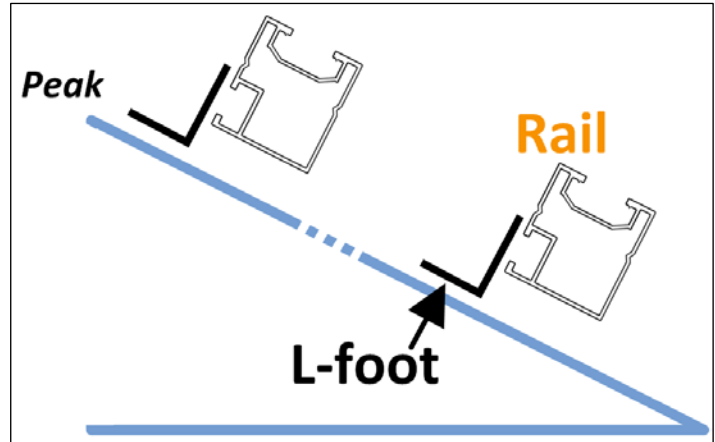
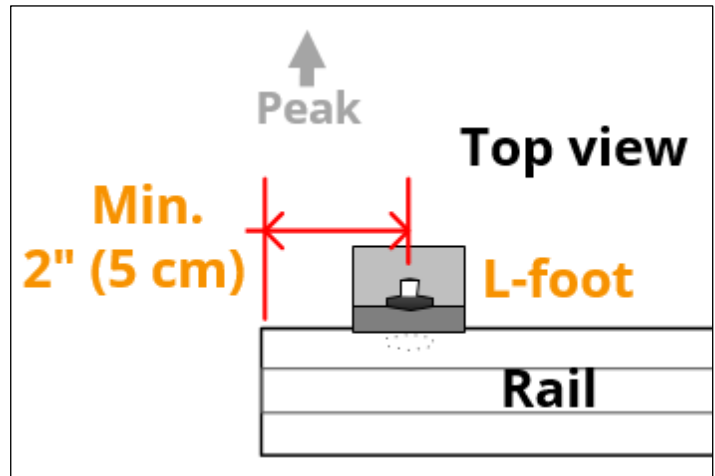
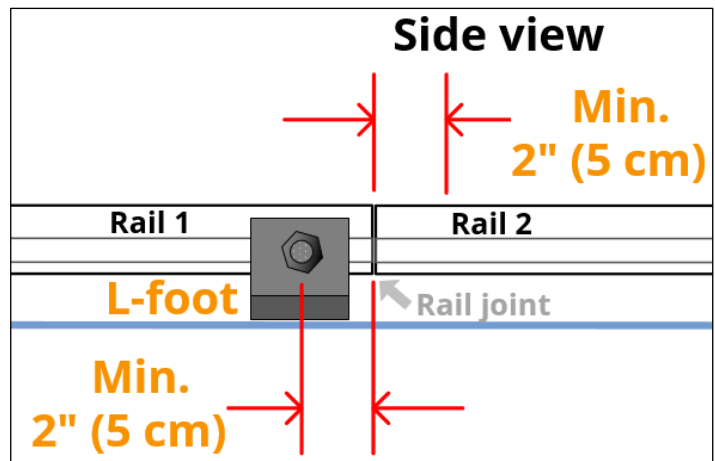

Fig. 5
Fig. 6
Fig. 7
3. Position the rails on the roof, adjacent to the L-feet and such that the side channel of each rail is facing the roof peak (Fig. 3 and Fig. 5).
- Position the rail—with its side channel facing the peak—adjacent to and “below” (relative to the peak) the L-feet for the given row (Fig. 5).
**Note:** L-feet must only “face” the peak (Fig. 5 and Fig. 6).
- Position the rail bolts a minimum of 2" (5 cm) from the end of a rail (Fig. 6); and a minimum of 2" (5 cm) from any rail joint (Fig. 7).